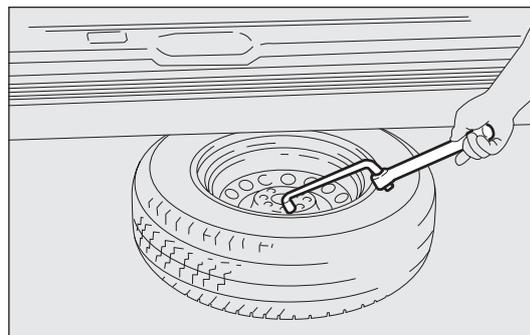

fig. 163
- ❑ use the wheel dismantling spanner to remove the wheel from the vehicle fig. 163;